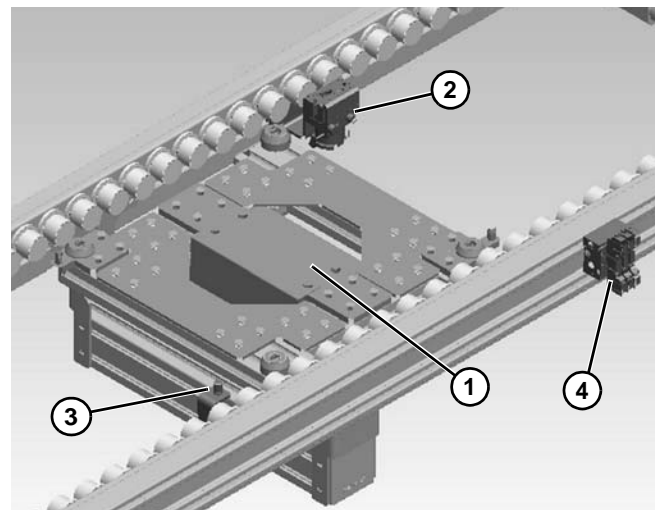

Figure 17
1. Install and adjust Lift and Locate module (**Figure 17, item 1**).
2. Locate and install pallet stop (**Figure 17, item 2**). (Refer to "Pallet Stops" starting on page 6.)
3. Locate and install pallet sensor (**Figure 17, item 3**). (Refer to "Sensor Mounts" starting on page 6.)
4. Install and connect pneumatic solenoids (**Figure 17, item 4**), provided by others.